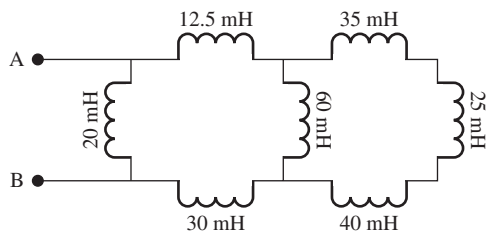

FIGURE P4.47 Inductor network.
4.47 (A) Find the equivalent inductance across points A and B in Figure P4.47.